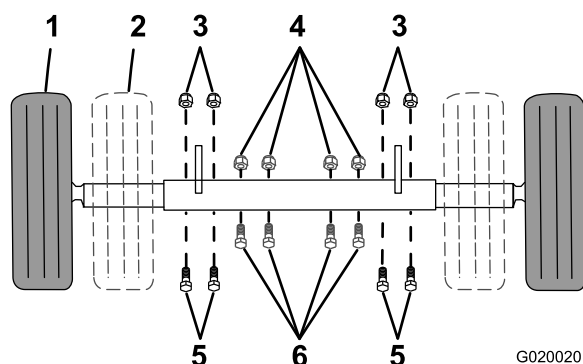

Figure 22
1. Support point (2)
4. Remove the bolts and nuts that secure the inner axle to the outer axle (Figure 22).
- Slide each side of the axle inward to the narrow position (Figure 22).
- Slide each side of the axle outward to the wide (tow) position (Figure 22).
7. Insert the bolts through the axle holes (Figure 22).